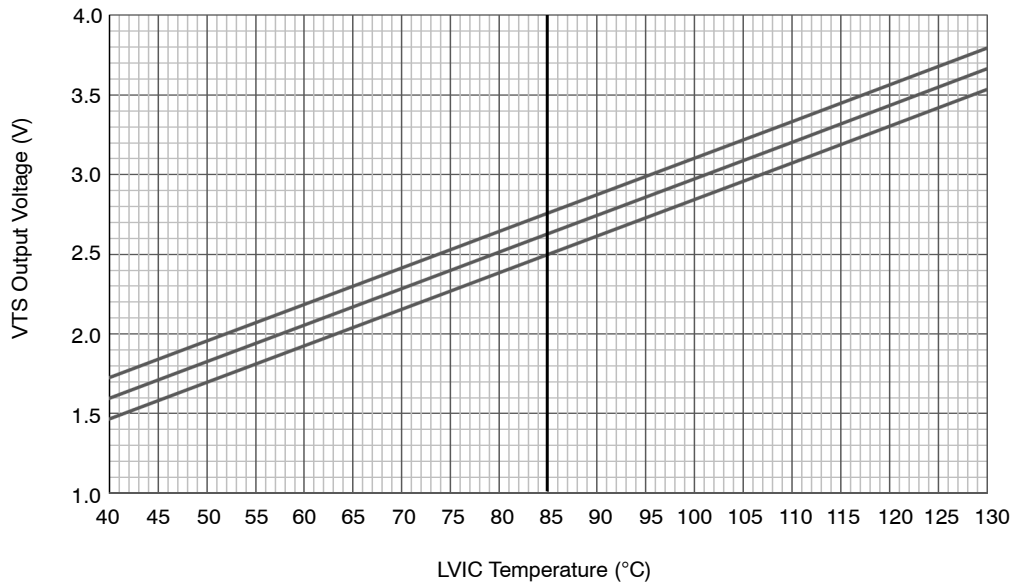
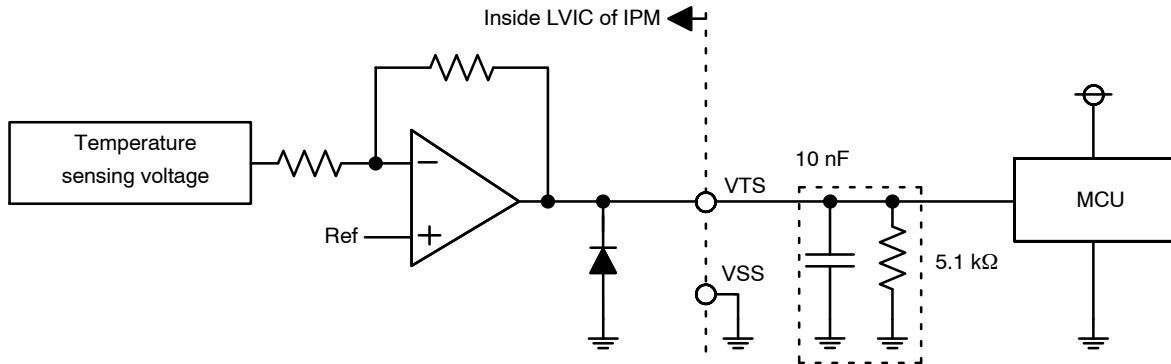

Figure 4. Temperature of LVIC vs. VTS Characteristics
Figure 5. Internal Block Diagram and Interface Circuit of VTS
5. TLVIC is the temperature of LVIC itself. VTS is only for sensing temperature of LVIC and cannot shutdown IGBTs automatically. The relationship between VTS voltage output and LVIC temperature is described in Figure 4. It is recommended to add 5.1 kΩ pull down resistor between VTS and VSS (Signal Ground) as described in Figure 5 for linear output characteristics at low temperature. Refer to the application note for usage of VTS.
To avoid malfunction, the wiring of each input should be as short as possible (less than 2–3 cm). Each capacitor should be mounted as close to the pins of the product as possible. VFO output is open-drain type. This signal line should be pulled up to the positive side of the MCU or control power supply with a resistor that makes IFO up to 1mA. Please refer to Figure 5.